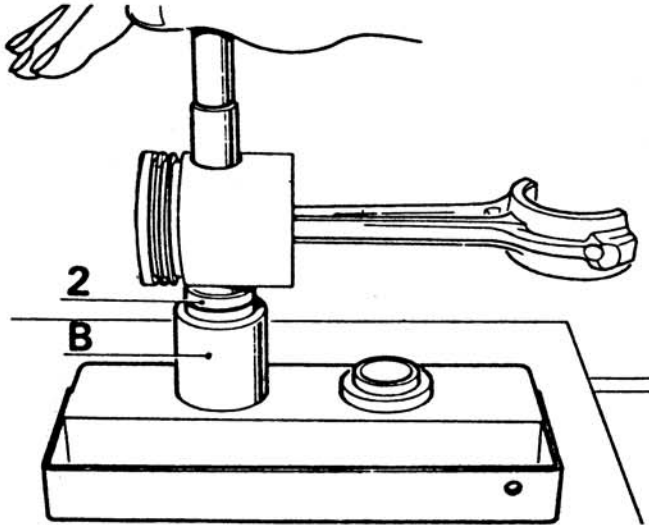

FIGURE 24. INSERTING PISTON PIN
Fit the assembly guide sleeve (2) onto the assembly guide (B) on the mounting base. Place the "piston-connecting rod" assembly on the mounting base making sure that the spotface on the piston is resting on the assembly guide sleeve (2). Push the "mandrel-piston pin-sleeve" assembly by hand into the piston and connecting rod small end until the assembly guide sleeve just touches the bottom of the assembly guide (Figure 24).